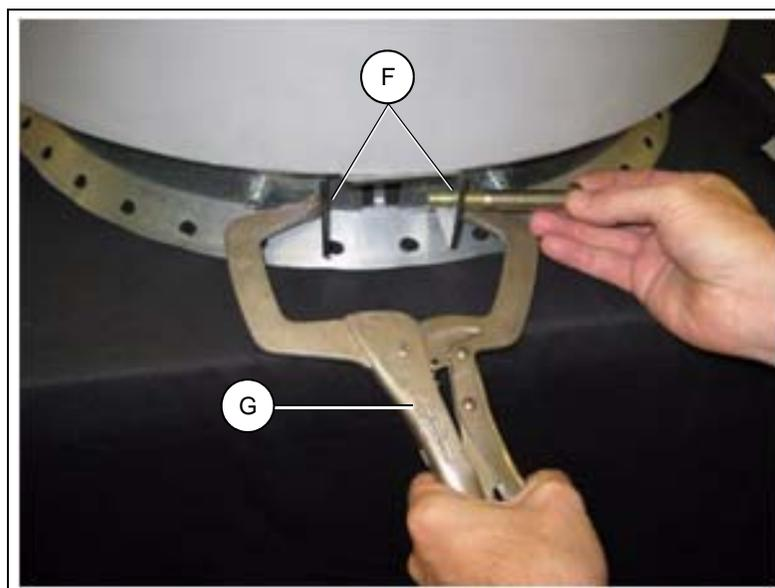
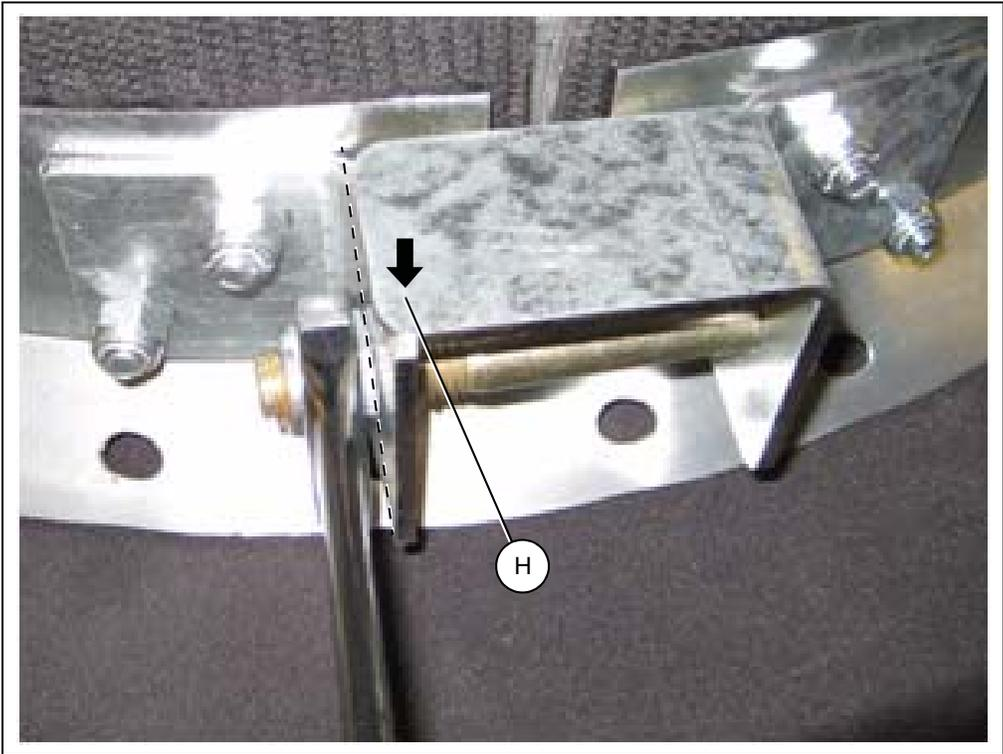

Figure 11C Mount Lid to Peak Ring
Figure 11E Tighten Bolts Until Flush with Bracket
2. Place the lid assembly over the existing peak ring collar and rotate lid assembly such that the lever arm and spring hinge line up with the roof eave bracket, See Figure 11A on Page 54. Use a clamp to pull the mounting brackets together. Slide the 3/8" carriage bolt supplied through the mounting bracket and loosely fasten with nut, See Figure 11C. Remove clamp and tighten the bolt with 9/16" ratchet, ensuring that the vertical flange tightens past the left edge of the top, horizontal flange, See Figure 11E on Page 56.